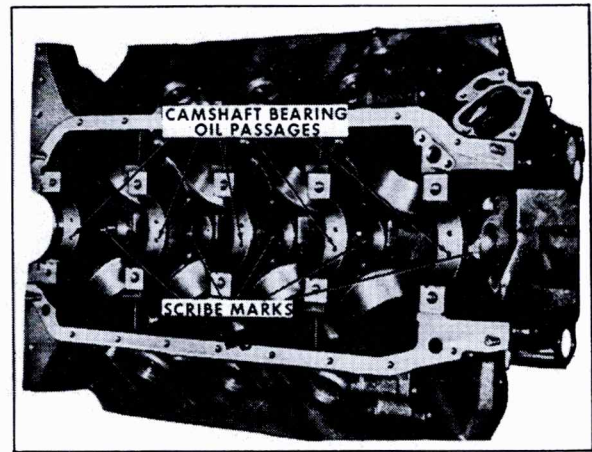

Fig. 6-127 Camshaft Bearing Oil Passages
2. Locate center oil passage in each bearing bore and scribe a reference mark on front face of each bore, Fig. 6-127.